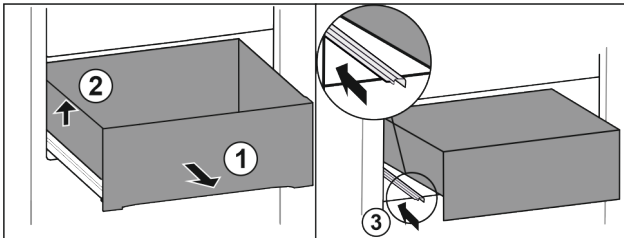

Fig. 86
- ▶ Pull out drawer as far as it will go. Fig. 86 (1)
- ▶ Lift drawer on the left. Fig. 86 (2)
- ▶ Insert left rail. Fig. 86 (3)